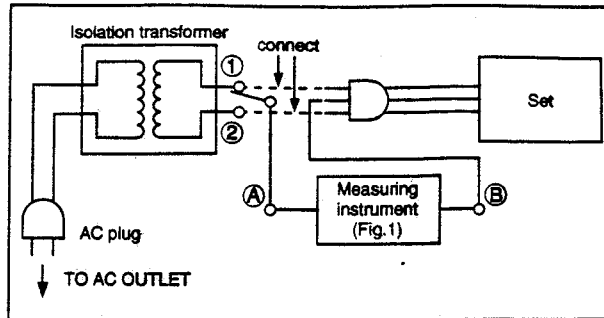

Fig. 2
2. Assemble the circuit as shown in Fig 2. Connect AC plug to AC outlet.
3. Connect (A) to (1) according to Fig.2 and measure voltage.
4. Disconnect (A) from (1) to (2). Measure voltage again.